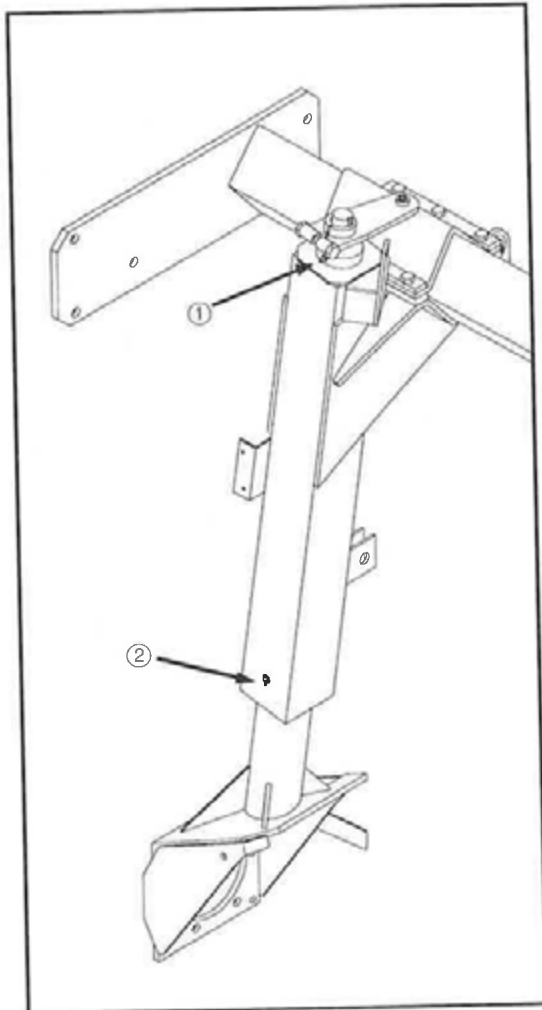

FIG 8.31
Hagie 254x-11 leg assemblies are constructed with upper and lower nylon bearings. To steer, the inner leg weldment pivots inside the outer leg weldment. These bearings must be lubricated to avoid bearing failure. There are grease zerks located on the front of the leg assemblies, one for the upper bearing (fig. 8.31, item 1) and one for the lower bearing (fig. 8.31, item 2). Greasing both bearings on both front legs daily is very important.